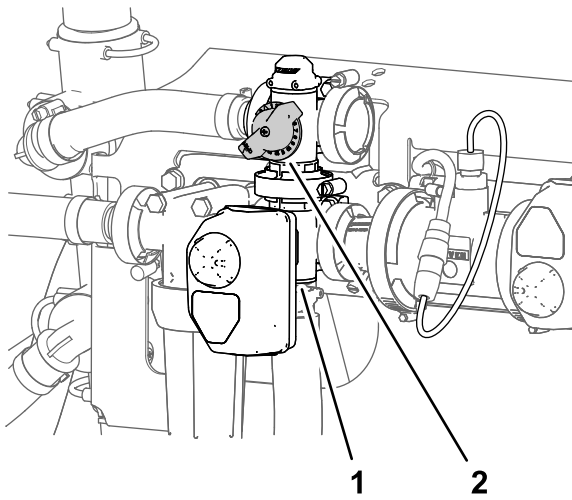

Figure 36
11. Adjust the agitation-bypass valve (Figure 36) on the backside of the agitation valve until the sprayer system pressure indicated on the gauge indicates 689 kPa (100 psi).